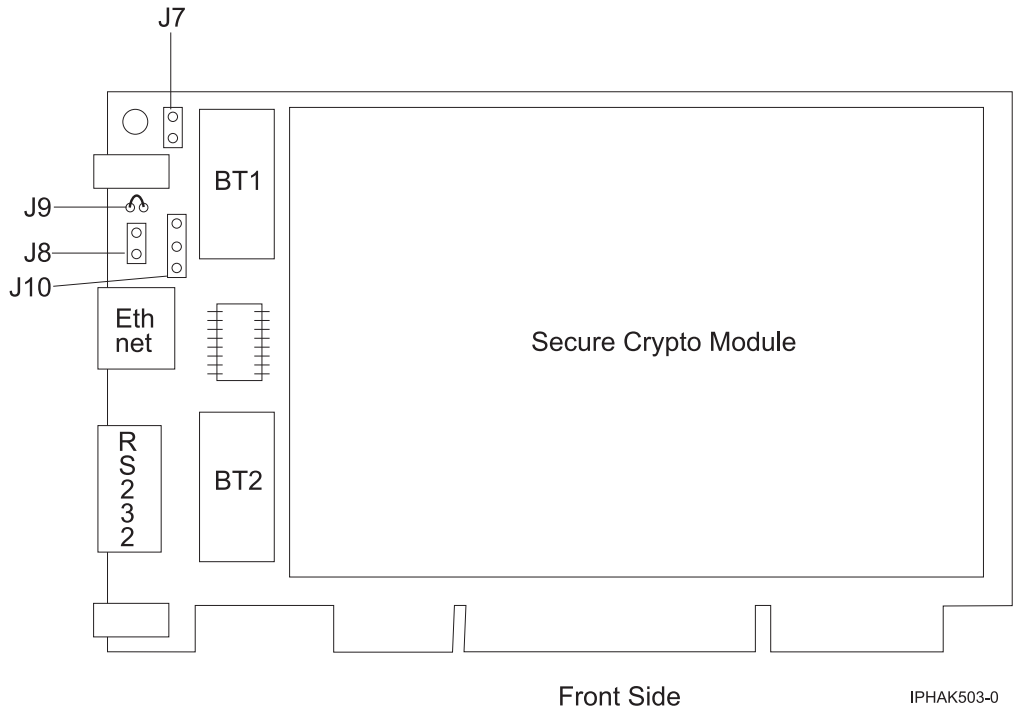

Figure 55. Front side of the adapter
6. Insert one of the new batteries into the battery tray provided with the kit. Align the + on the battery with the + on the battery tray (the end with the red wire). Connect the tray wires to the J10 connector located near the RS-232 serial port, as shown in Figure 55 on page 227. The connector is polarized to ensure a proper connection.